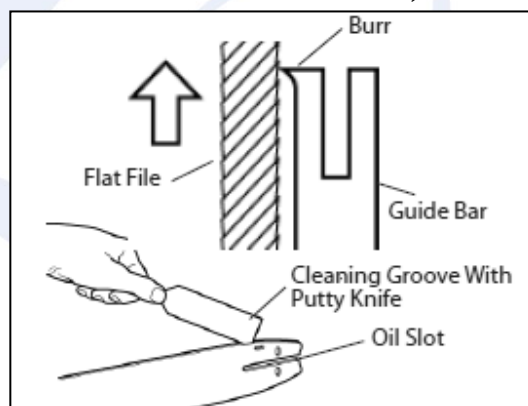

Figure 10
2. Remove sawdust from guide bar groove periodically. Use putty knife or wire (**See Figure 10**).